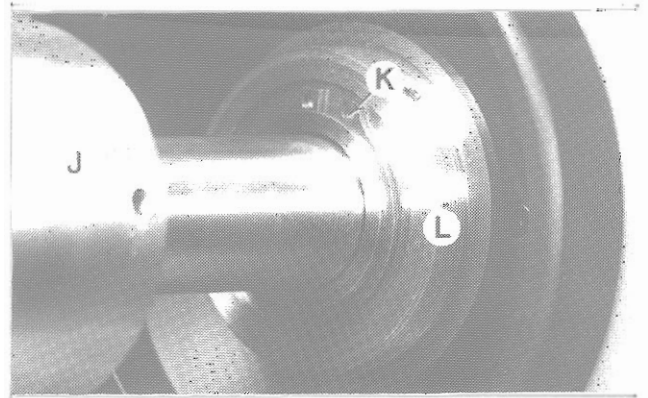

Figure 10.5 - Shell Guard Removal
6. Unscrew shell guard "J", Figure 10.5, from mounting ring "L". Shell guard has a right hand thread. Remove draw tube and collet closer from headstock.
7. If necessary, remove retaining ring "K", Figure 10.5, and pull mounting ring "L" off end of spindle. Do not misplace square key.
1. If mounting ring "L", Figure 10.5, was removed, make certain square key is in position and replace mounting
3. Screw shell guard "J", Figure 10.5, onto mounting ring "L".